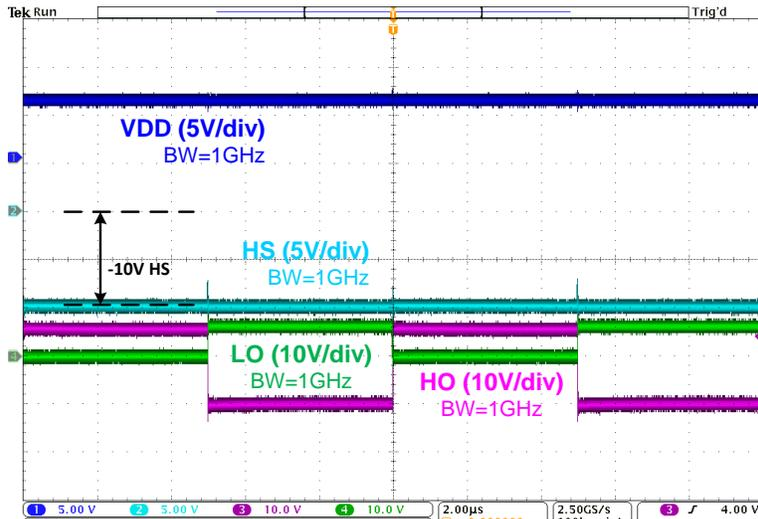
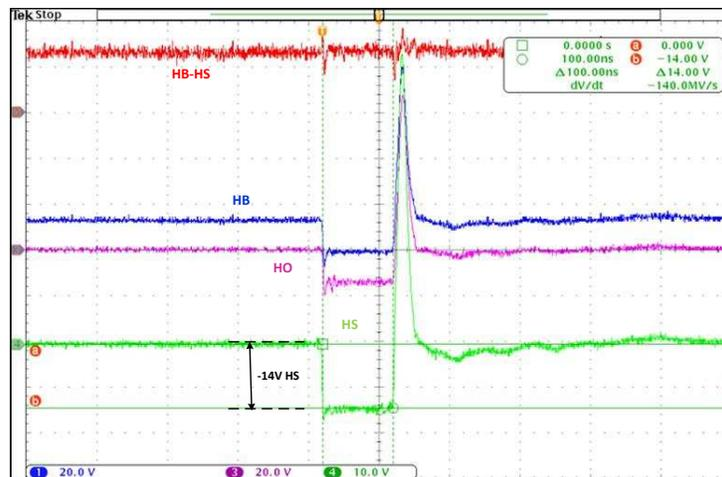

Figure 4. Switch node (HS) DC negative voltage handling capability of the UCC27282
Figure 5. Switch node (HS) negative transient voltage handling capability of the UCC27282
For half-bridge power stage of motor drive applications, switch node (node that connects high-side and low-side power MOSFET) swings negative every switching cycle. Parasitic diode of low-side power MOSFET in this configuration clamps this negative voltage to the diode drop. Most of these diodes have relatively slow recovery characteristic and therefore the negative voltage on switch node exist for significant amount of time. The same negative voltage appears on the half-bridge gate driver IC. If the gate driver IC is not designed to handle this negative voltage, the gate driver might malfunction or might get damaged completely. The UCC27282 is designed to handle negative voltage on the HS node. Figure 4 shows the switch node (HS) negative voltage handling capability of the UCC27282. The supply current was monitored during the test and observed no difference in supply current drawn by the UCC27282 half-bridge gate driver. The UCC27282 was fully tested before and after the test and no shift in any of the electrical characteristics was observed.
Figure 4 shows DC negative voltage handling capability of the UCC27282 half-bridge gate driver. The UCC27282 can handle maximum of negative 10V DC and negative 14V short duration transient. In most applications, HS voltage goes negative for short duration as explained earlier in this section. UCC27282 has -14V rating for short duration pulses on HS pin. Figure 5 shows this negative transient voltage handling capability of the UCC27282. All the waveforms were taken using single ended (ground referenced) probe. This waveform shows that HO was held low before, during, and after the -14V transient on HS node. The state of the output pins did not change due to this negative transient.